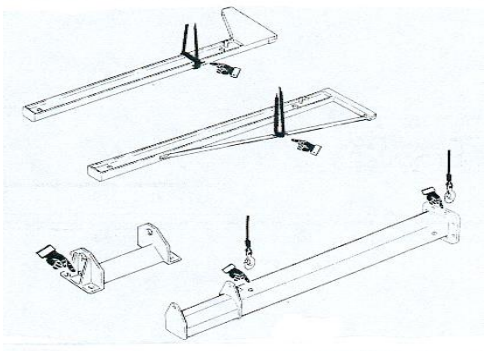

fig.14
- Sling the parts of the crane with suitable equipment so as not to damage the painted surfaces: (fig.14)